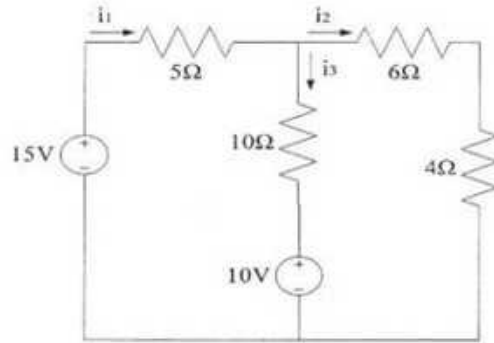

Figure 8(a)
- b. Determine the voltages  $V_1$  and  $V_2$  and the current  $I$  generated by the voltage source  $E_1$  shown in figure 8(b).